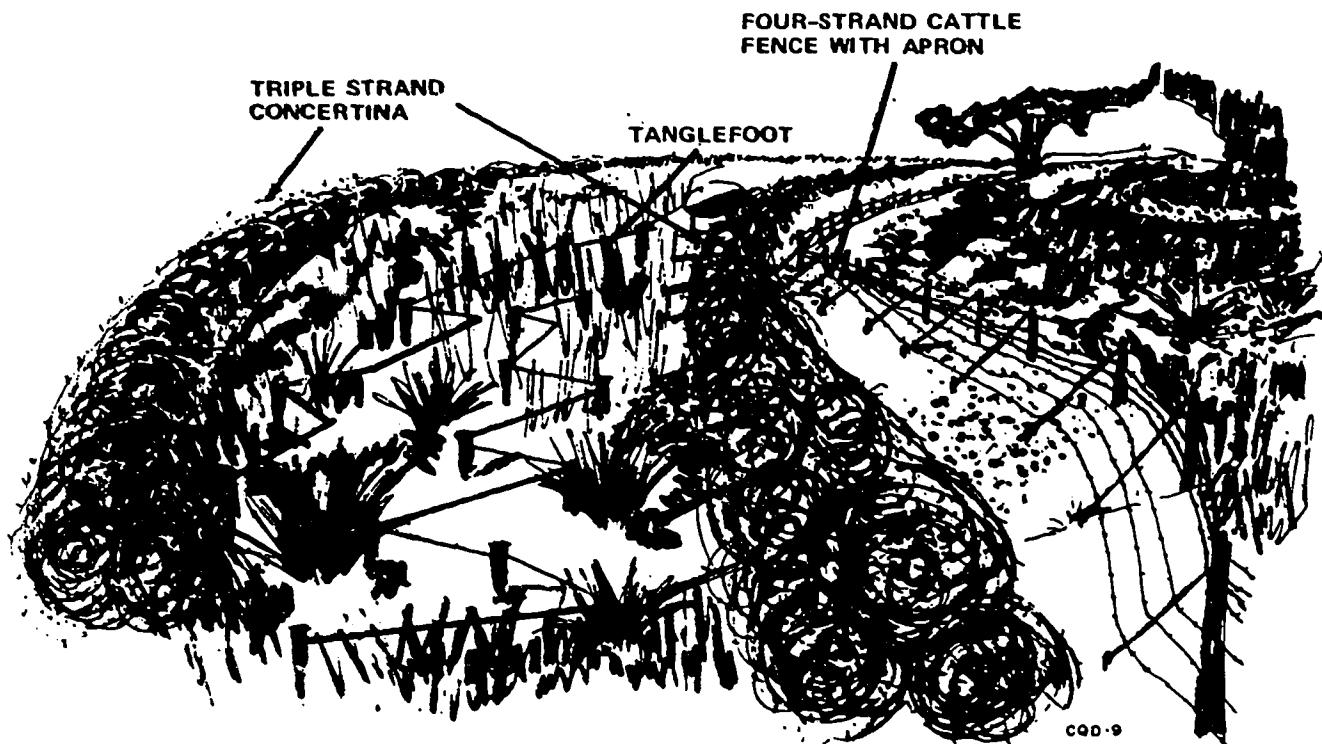

Figure 3-18. Entrapments.
**Types.** Now that you are familiar with the classifications of entanglements, let us look at the types of barriers and their uses (see fig. 3-18).
(1) Single. This single line of concertina is erected quickly and easily, but it is not an effective obstacle.
(2) Double. This consists of a double line of concertina with no interval between lines. The two lines are installed with staggered joints. Also, double concertina is less effective than a double-apron fence. It is used to supplement other obstacles in a band or zone.
(3) Triple strand. This consists of two lines of concertina serving as a base, with a third line resting on top. All lines are installed with staggered joints. Each line is completed before